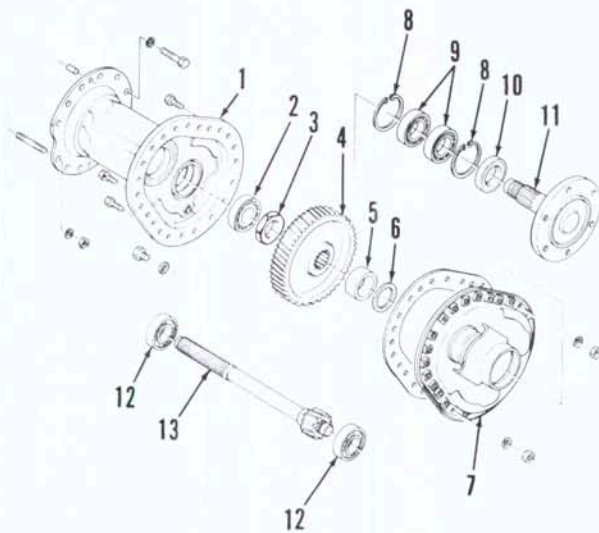

Fig. 138—Exploded view of final drive assembly used on Models L235 and L275.
(1 - Fig. 138) from cover (7). Secure axle shaft (11) in a vise and remove nut (3). Remove bull gear (4) and differential gear shaft (13) as a unit. Tap axle shaft out of housing being careful not to damage shaft. Remove bearings (9) and oil seal (10).